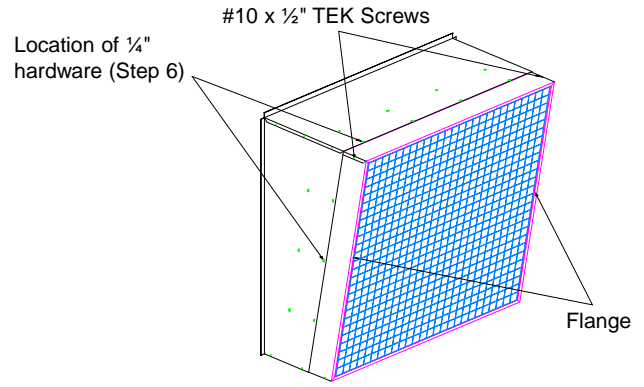

Figure 3
- 4) Firmly grasp the flange (on the outlet side) and pull the extension forward, until it is fully extended, as shown in **Figure 3**. Tighten 1/4" x 1" TEK screws.
- 5) Using the four #10 x 1/2" TEK screws removed in step 2, reattach the extension to the housing. Attach the top extension panel to the side extension panel with one additional #10 x 1/2" TEK screw per side into the upper corners (screws provided). **See Figure 3.**
- 6) Remove the guard and fasten the extension to the housing with ten 1/4" flange screws, 1/4" flat washers, and 1/4" nylock nuts (provided). **See Figure 3.**